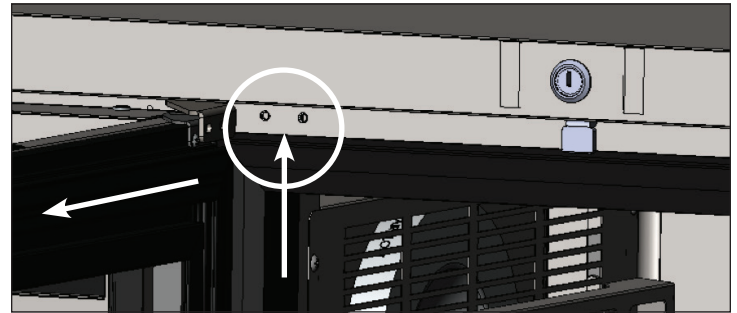

Fig. 2. Remove the top hinge from the unit.
2. With the bolts removed, swing the bracket onto the door. Tilt the top of the door out to provide clearance from the countertop. Lift the door to disengage it from the top hinge bracket. See fig. 2.